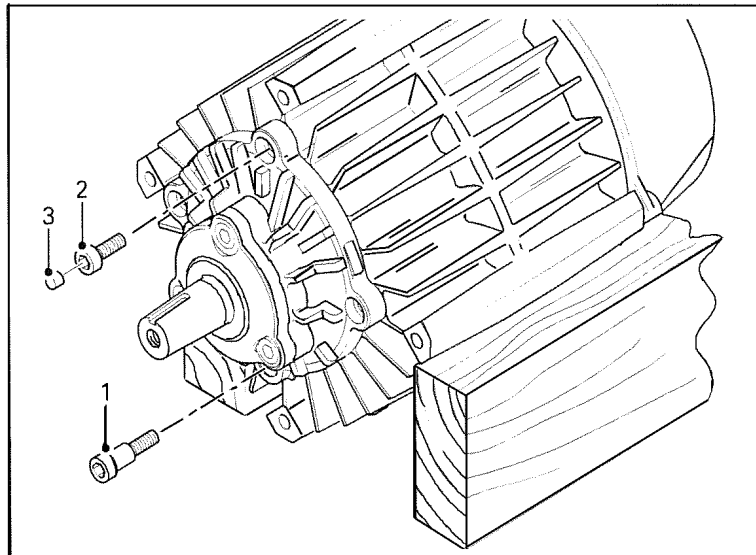

Figure 7. Sideplate assembly.
1. Remove the lead seal which is in one of the sideplate socket cap screws. Fig. 7.